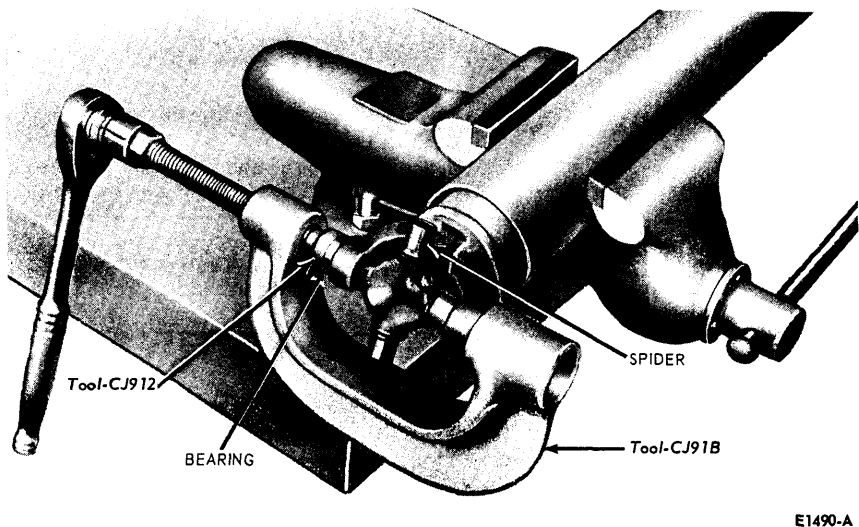

FIG. 3—Installing U-Joint Bearing
2. Position the spider in the rear yoke and press the bearing $\frac{1}{4}$ inch below the surface (Fig. 3).